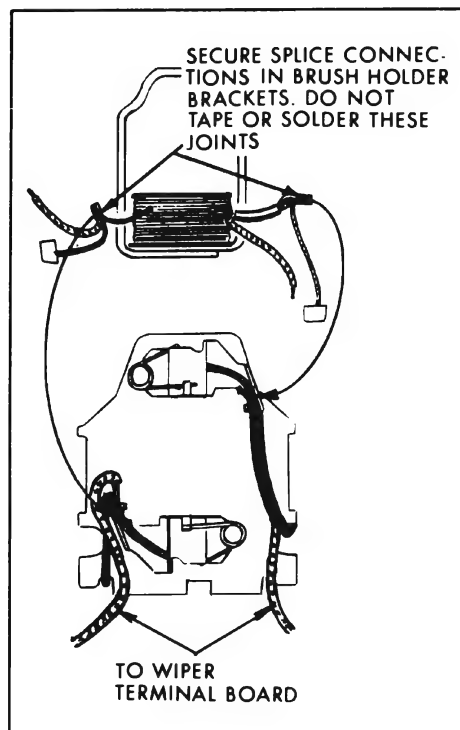

Figure 10-103—Motor Wiring
(1) Check solder connection at terminal board.
(2) Disassemble motor section and check all splice connections (Figure 10-103).
(4) Brush pigtail connections at splice joints (Figure 10-103).